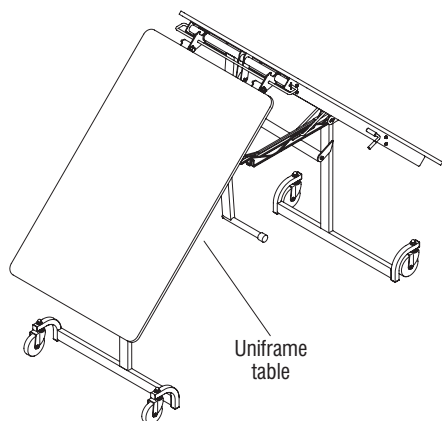

Figure 1
1. Open the table half-way to gain access to the broken table latch (Figure 1).